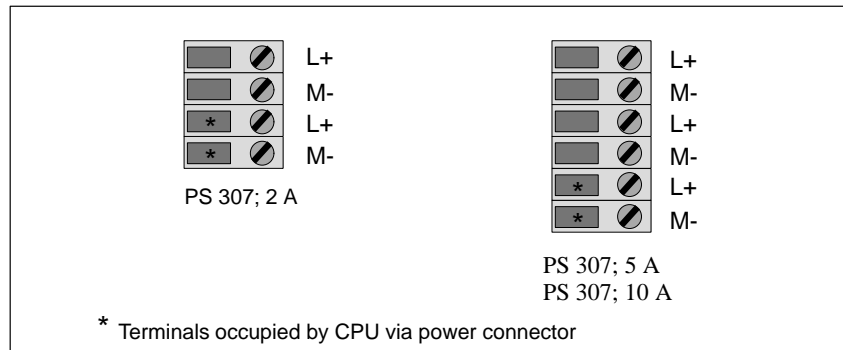

Figure 6-4 Screw-Terminal Front Connector of Power Supply Modules PS 307, 2 A and PS 307, 5 A/PS 307, 10 A
2. Insert one conductor in each of the free terminals L+ and M of the power supply module (Figure 6-4) and tighten them. These terminals can accept two conductors. This means, for example, you can connect an expansion module EXM 378-2 and mass storage module MSM 378 to one pair of screw terminals (M, L+).